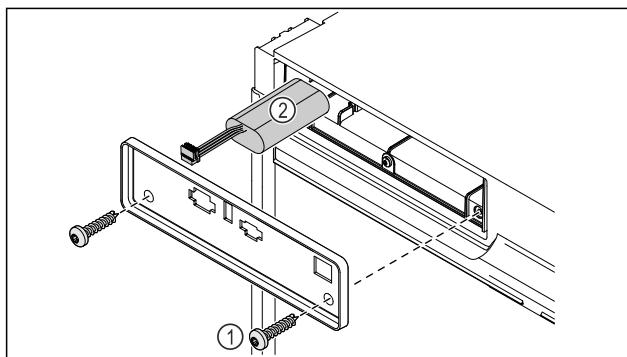

Fig. 228
- Unscrew the screws and remove the cover on the back of the appliance Fig. 228 (1).
- Disconnect and remove the battery Fig. 228 (2).